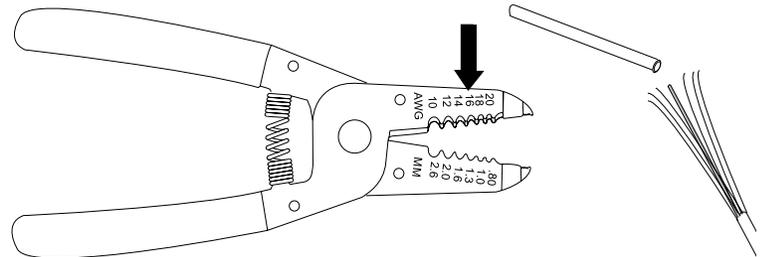

Figure 5-20
**5.5-3** Strip off the 40-mm section of outer jacket with the 16 AWG opening of the buffer stripping tool (Figure 5-20).